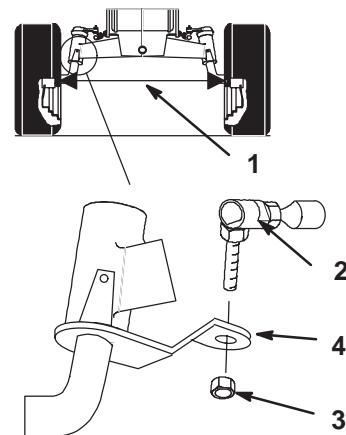

Figure 34
Maintain toe-in of the front wheels as specified. If uneven tire wear, lawn scuffing or hard steering develop adjustment may be required. Check the toe-in after every 100 operating hours or yearly, whichever occurs first (Fig. 34).
- Measure, between the rims, at spindle level, in the front and rear of the wheels (Fig. 34).
- Remove ball joint from one steering lever (Fig. 34).